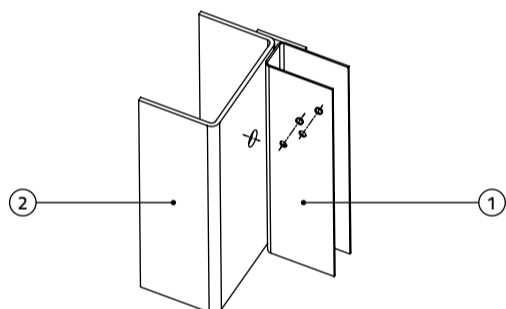

Figure 3
According to your marking, drill one  $\varnothing 20$  mm hole to the side post (2) so that the depth of the cylindrical part of the hole was at least 18 mm. Based on the gate (gate door) type, use  $\varnothing 6$  mm screws (7) or M8 bolts (8) as jointing material for fixing the base (3). For M8 bolts (8), drill two  $\varnothing 8.5$  mm holes through the gate (gate door) leaf (1), according to the marking – see Figure 3.
For  $\varnothing 6$  mm screws (7), pre-drill two  $\varnothing 4$  mm holes to the gate (gate door) leaf (1), according to the marking – see Figure 3 in the Installation instructions for one-leaf doors or overhead gate doors with wooden doorcase.